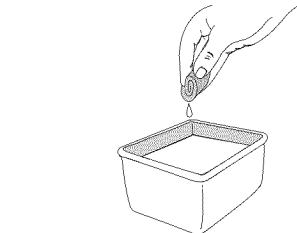

Fig. 14
- Wash the filter in detergent and water (Fig. 14). Rinse the filter thoroughly. Squeeze out excess water. Allow it to dry completely.